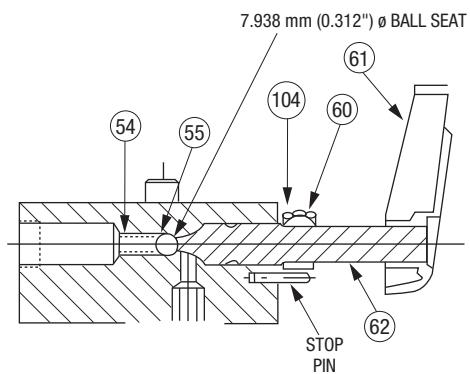
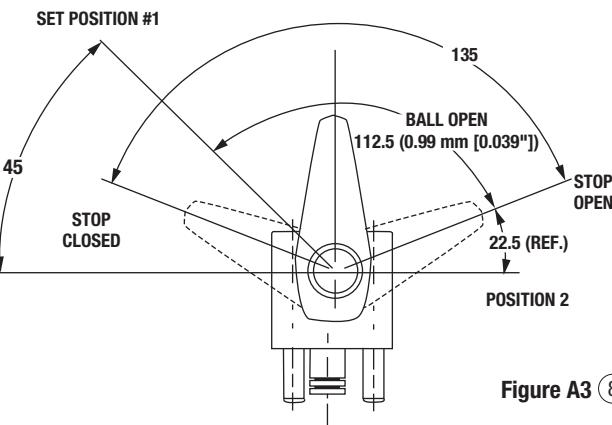

Figure A2 (8)
Figure A3 (8)
Manual control valve needs adjustment or repair.	See Hydraulic Schematic (8) and refer to Figures A2 and A3 in the Repairs section of this manual.
The manual control valve needs to be adjusted.	See Manual Release/Automatic Release Valve Handle Setting, Figure A3 in the Repairs section of this manual.
Check ball does not seat properly.	See Manual Release/Automatic Release Valve Handle Setting, Figure A2, and Ball Seat Refinishing, Figure B4 in the Repairs section of this manual.
The manual control valve needs to be adjusted.	Adjust the handle. See Manual Release/Automatic Release Valve Handle Setting, Figure A3 in the Repairs section of this manual.
Manual control valve set incorrectly.	See Hydraulic Schematic (8) and refer to Figures A2 and A3 in the Repairs section of this manual.
Refer to Figures A2 and A3. Thread in the shaft (62) until it just touches the check ball (55) (in its spring-loaded closed position). Slide collar (104) on the shaft. Position the handle (61) at the location "Position 1" (Figure A3), with the other surface of the handle flush with the end of the shaft. Lock in place. Rotate the handle to "Position 2" (Figure A3). Slide the collar toward the valve body until it contacts the 15.9 mm (5/8") diameter portion of the control shaft. Rotate the lock collar clockwise until it touches the stop pin, and lock in place.